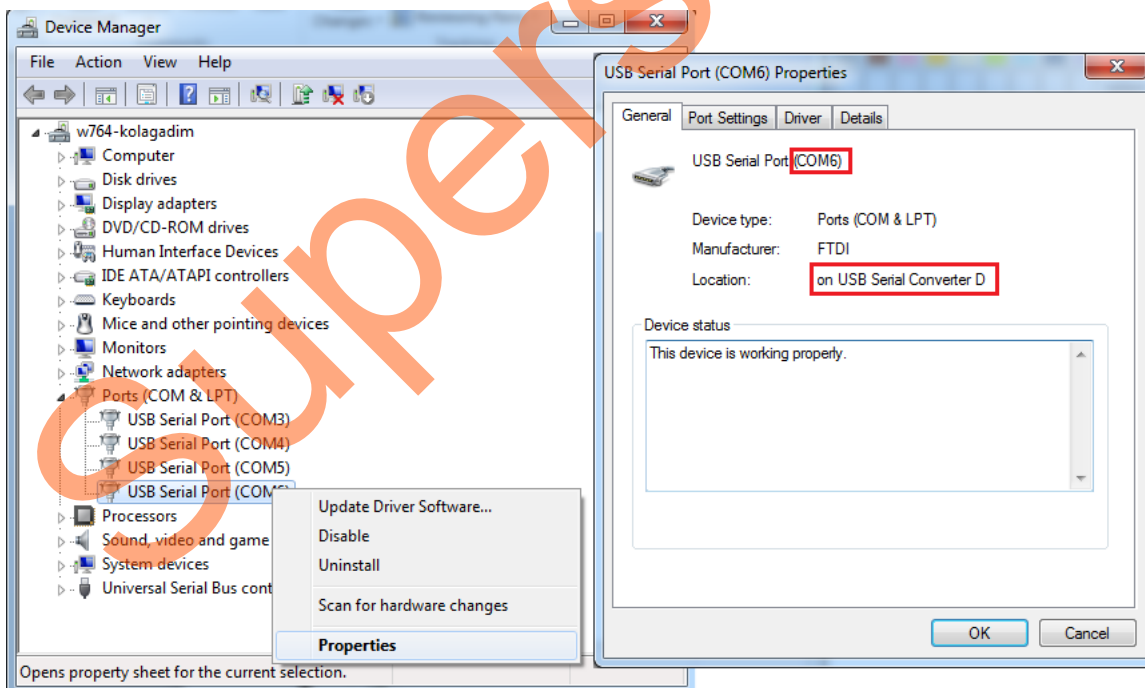

Figure 6 • USB to UART Bridge Drivers
Make sure that the USB to UART bridge drivers are automatically detected (can be verified in the Device Manager), as shown in Figure 6.
4. From the detected four COM ports, select the one with its location on **Properties** window as on **USB Serial Converter D**. Make a note of the COM port number for serial port configuration and ensure that the COM port location is specified as on **USB serial Converter D**, as shown in Figure 6.